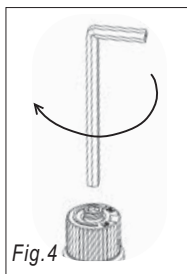

Fig.4
- 12) Using the Allen wrench as shown in Fig.4, rotate the screw clockwise until snug, do not overtighten.